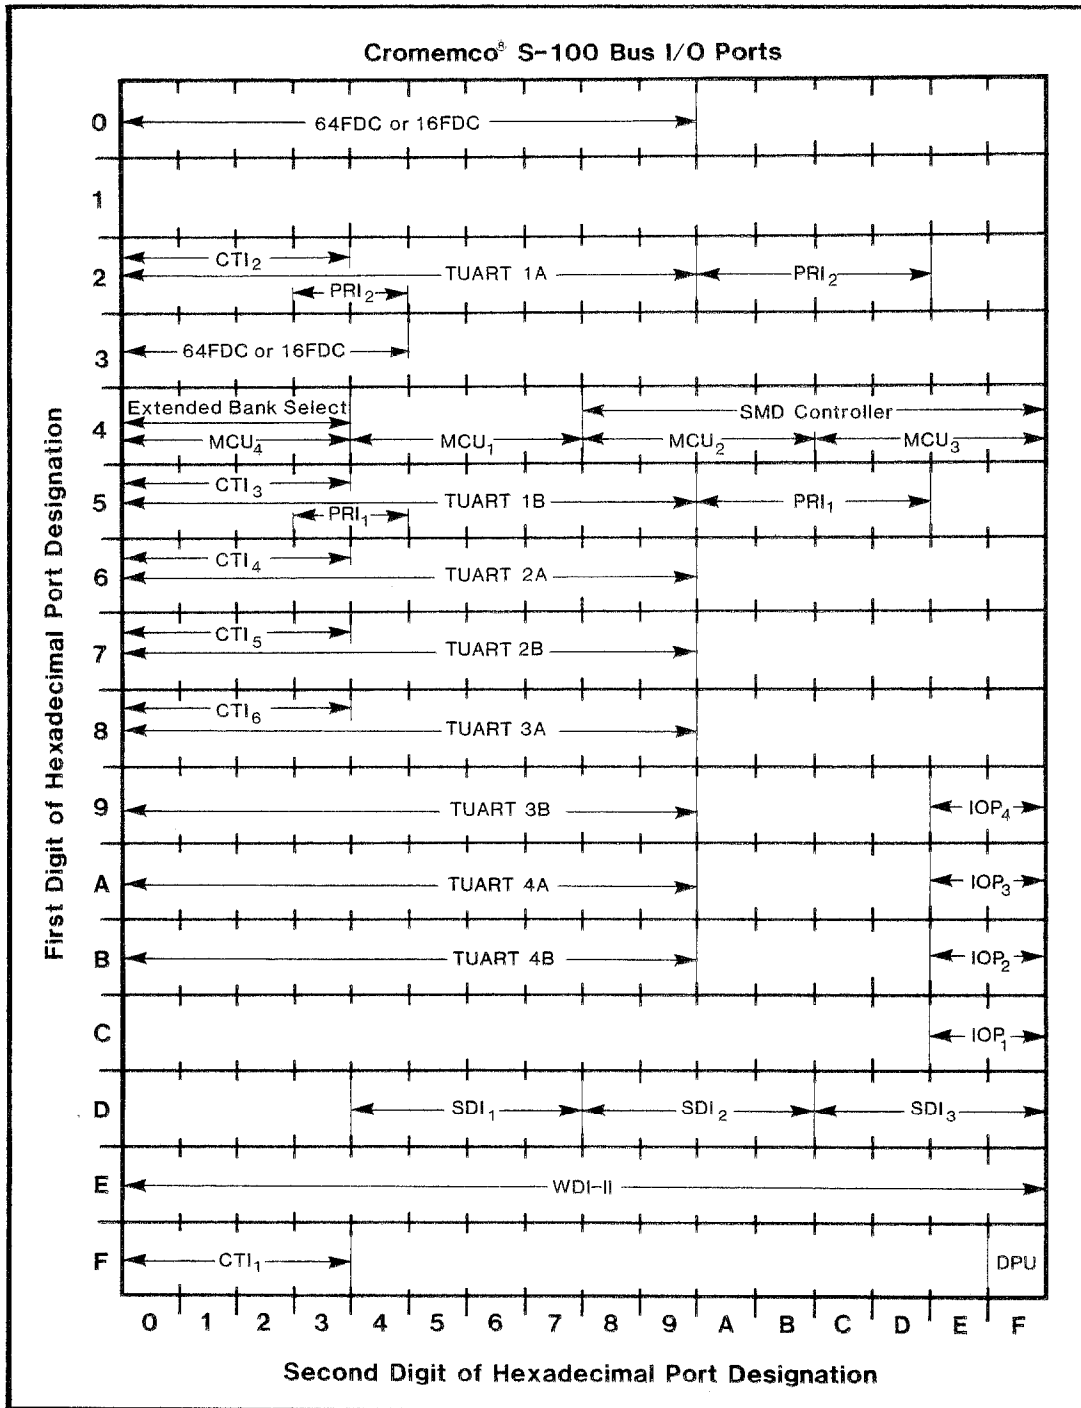

Figure 6-1: S-100 BUS I/O MAP FOR CROMIX BOARDS
Many of the board switch and jumper options described here, and earlier in Chapter 3, select **base I/O port addresses**. These base addresses place the boards in the S-100 Bus I/O map where the Cromix device drivers expect to find them. The proper switch settings result in the I/O map shown in Figure 6-1. Notice that I/O port assignments for some boards overlap. For example, board PRI 1 spans I/O addresses 53h, 54h, and 5Ah through 5Dh, while channel B of board TU-ART 1 spans I/O addresses 50h through 59h. In such cases, only one of the two
2. From the **qtty**, **mtty**, and **qslpt** entries in Appendix A, determine the correct S-100 base I/O address for the IOP board (IOP 1 is mapped at CEh, IOP 2 at BEh, IOP 3 at AEh, and IOP 4 at 9Eh -- see Figure 6-1).
1. From the **tty**, **lpt**, and **slpt** entries in Appendix A, determine the correct S-100 base I/O address for each TU-ART channel (A and B). If you are also using a PRI board in your system, do **not** assign the PRI and TU-ART boards overlapping I/O addresses (see Figure 6-1).
1. From the **lpt** and **typ** entries in Appendix A, determine the correct S-100 base I/O address for the PRI board. If you are also using a TU-ART board in your system, do **not** assign the PRI and TU-ART boards overlapping I/O addresses (see Figure 6-1).